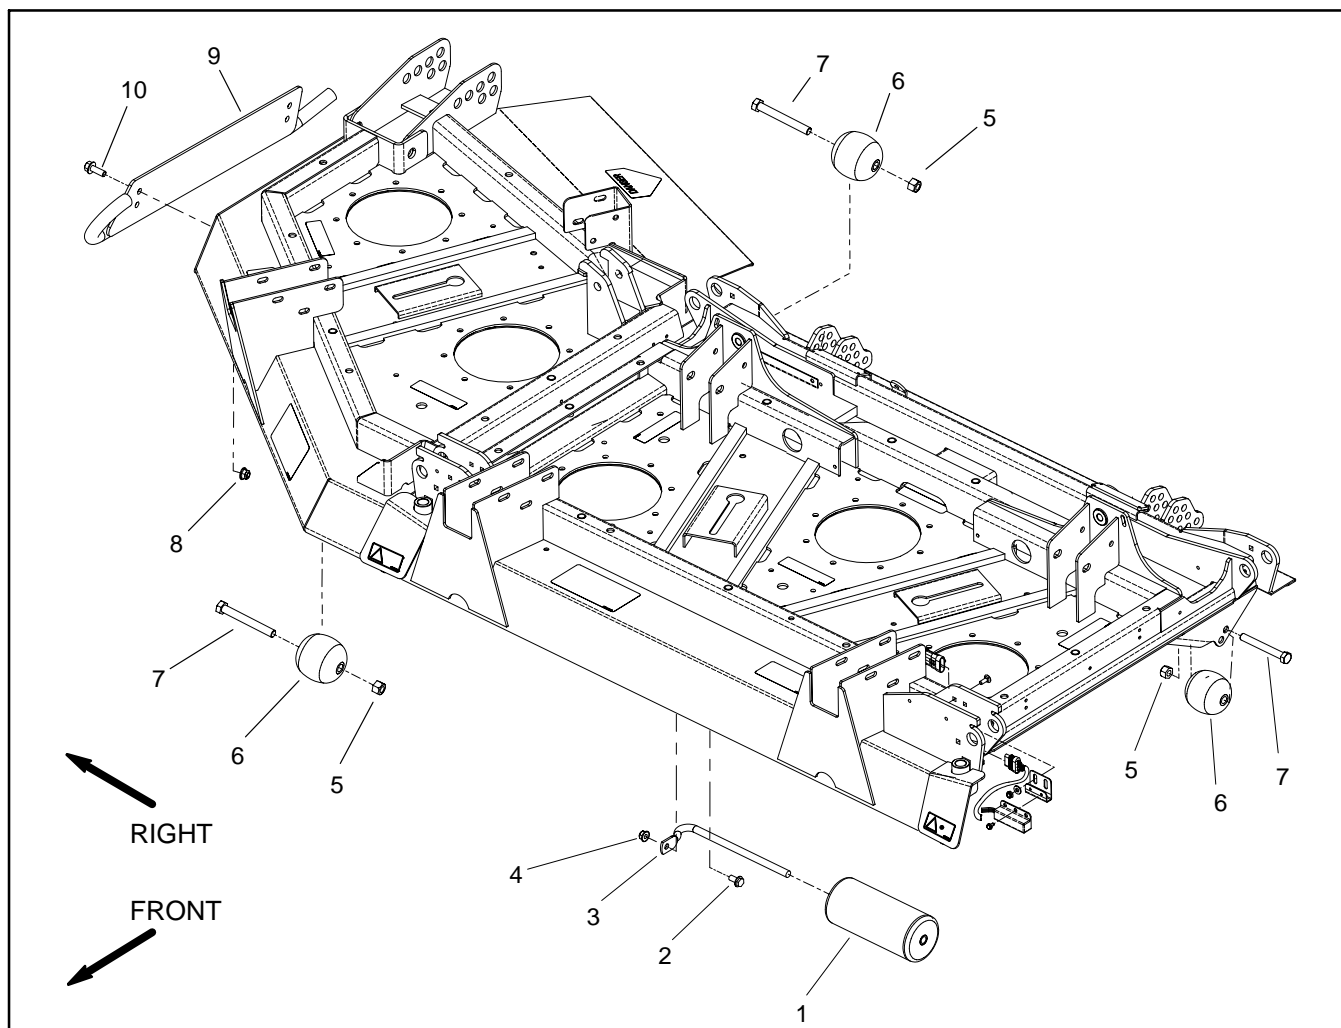

Figure 20
1. Remove skids and rollers from deck using Figure 20 as a guide.
1. Install skids to deck using Figure 20 as a guide. Make sure to install skids in the same mounting hole height position (lower or upper).
2. When installing roller (item 6), install cap screw with the threads orientated toward the centerline of the deck. Install and tighten lock nut until roller will not rotate, then loosen lock nut only enough to allow roller to rotate freely. Make sure to install all deck rollers in the same mounting hole height position (lower or upper).